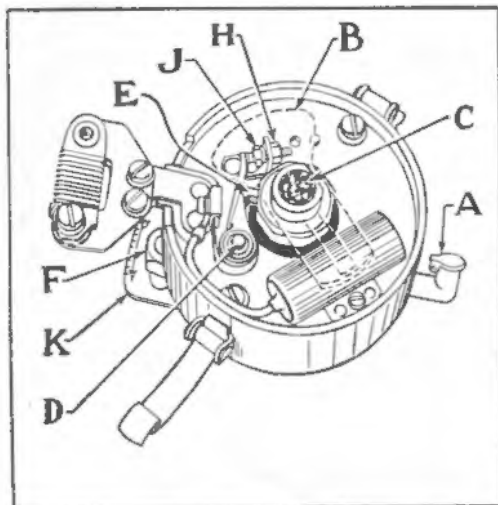

Figure 3
The oil cup (A), Figure 3, should be filled with oil every 2,000 miles. At the same time remove the distributor cap (not shown) and rotor arm (B), placing a few drops of oil on the wick (C) in the top of the shaft, one drop of oil on the breaker arm pivot (D), and apply a light coating of vaseline on the cam block (E).
With the engine in this position the rotor arm (B), Figure 3, of the distributor should be in the position shown in the illustration. When the distributor cap is put in place, the metal strip on the rotor arm should be directly under the terminal to which number one spark plug wire is attached. The other cables should be in the cap terminals in the order 1-6-2-5-8-3-7-4, following in a clockwise direction. The cable in the center terminal of the distributor cap should go to the central (high tension) terminal of the ignition coil.